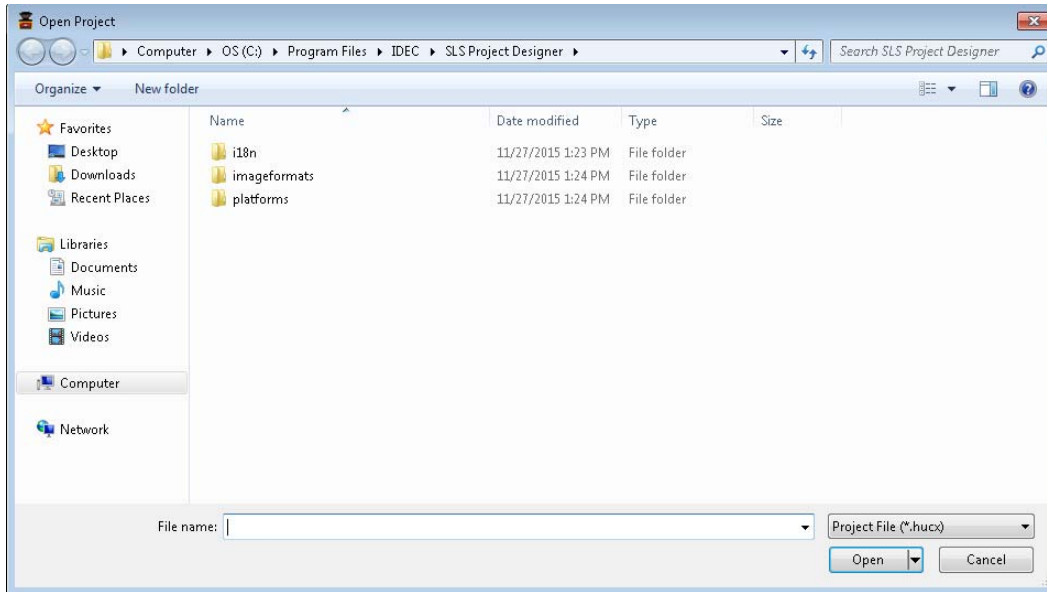

Figure 7-53 Save project file
- c) Dialog box will appear (Figure 7-53). Select the project file [*****.hucx] to open.